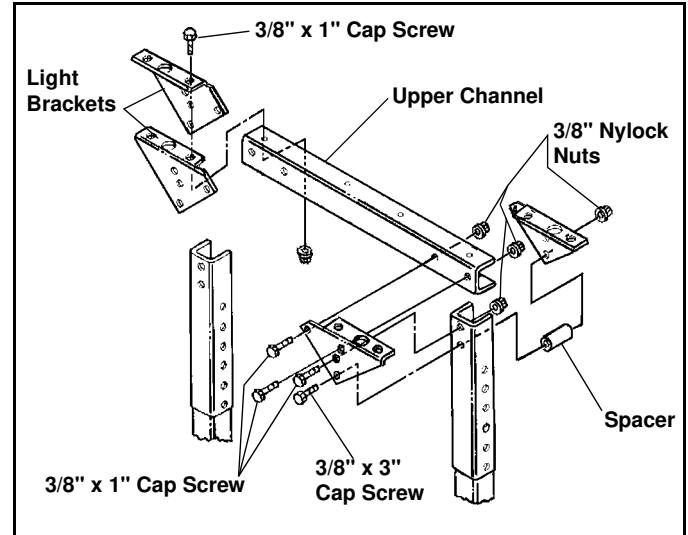

Figure 5
7. Attach pair of Light Brackets (#31) and (#32) to each end of Upper Channel with six (6) 3/8" x 1" Cap Screws (#19), and Nylock Nuts provided. (See Figure 5)
8. Attach Light Brackets/Upper Channel assembly to Mounting Channels with two (2) 3/8" x 1" Cap Screws (#19), and two (2) 3/8" x 3" Cap Screws (#21), and Nylock Nuts provided. Use two (2) Spacers (#25) between Light Brackets and Channel on long Cap Screws. (See Figure 5)